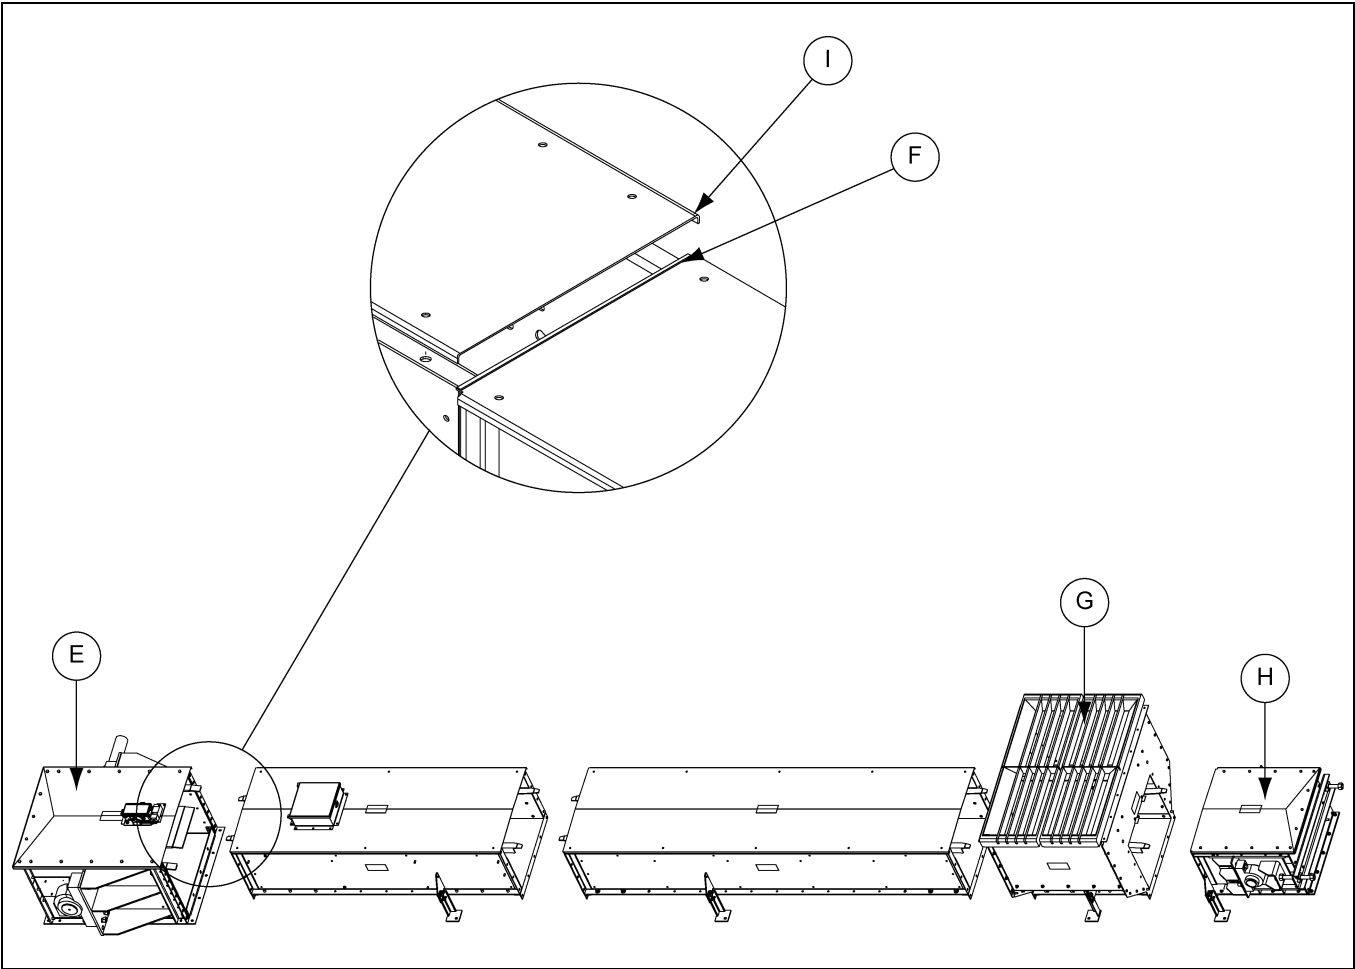

Figure 6J Cover Trough Assembly
2. Starting at the tail end (H), place the tail section cover on top of the tail section assembly.
3. Apply the adhesive back foam strip (F) to the top surface of the protruding lip before installing the next cover. See cover trough assembly in Figure 6J on Page 20. This recommended installation sequence should ensure that water will shed away from cover seam connections.
The cover of the intermediate section that is located next to the discharge end of the bypass inlet must be field modified. The 1/2 inch overhang lip as shown in Figure 6J on Page 20 of the non-notched end of the intermediate cover will need to be removed.